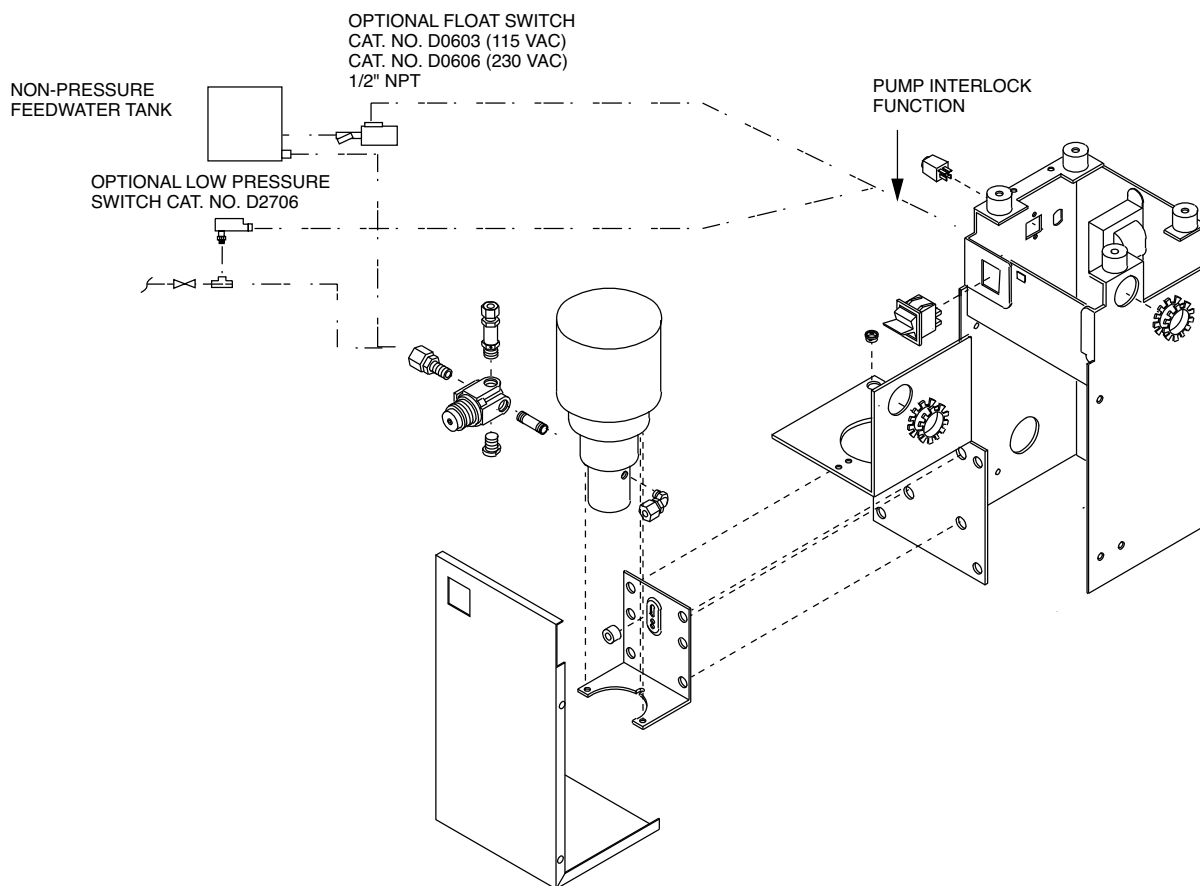

Figure 7-1. Pump Protector Installation
4. If using D2706 low pressure switch, install a 1/2" PVC tee (supplied) in incoming water line (see Figure 7-1). Screw the switch into the top of the "T" and inlet tubing to NANOpure into remaining openings.